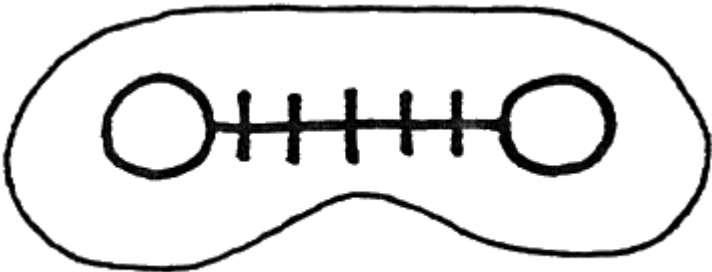

FIGURE 2
Step 2. Place the goggles over the template so that the image is centered in the goggles. See the end of instructions for the template and refer to Figure 2 for placement of the goggles over the template.